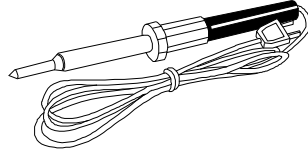

Figure 2
There's no need for an expensive solder iron to assemble or repair most "through-hole" electronic assemblies. A "workable" iron can be found for under \$10 (US) and might be adequate for the person who needs to use it only a few times per year for short periods of time. The portable "pencil type" of solder iron shown in Figure 2 is a typical example.